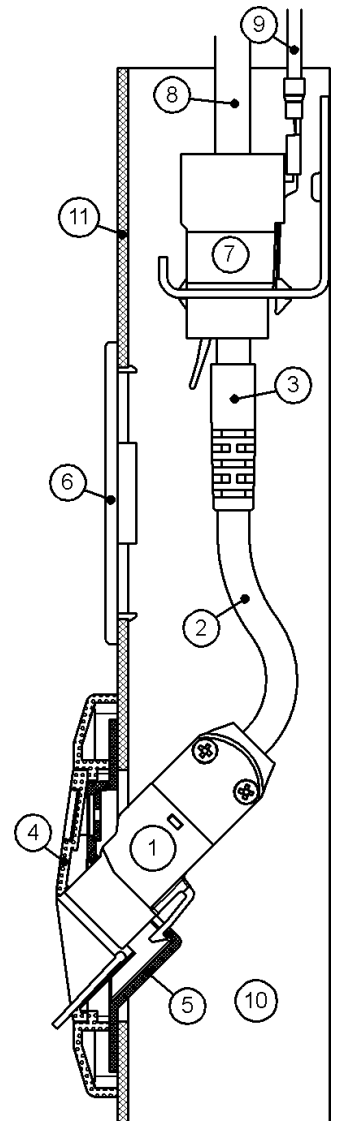
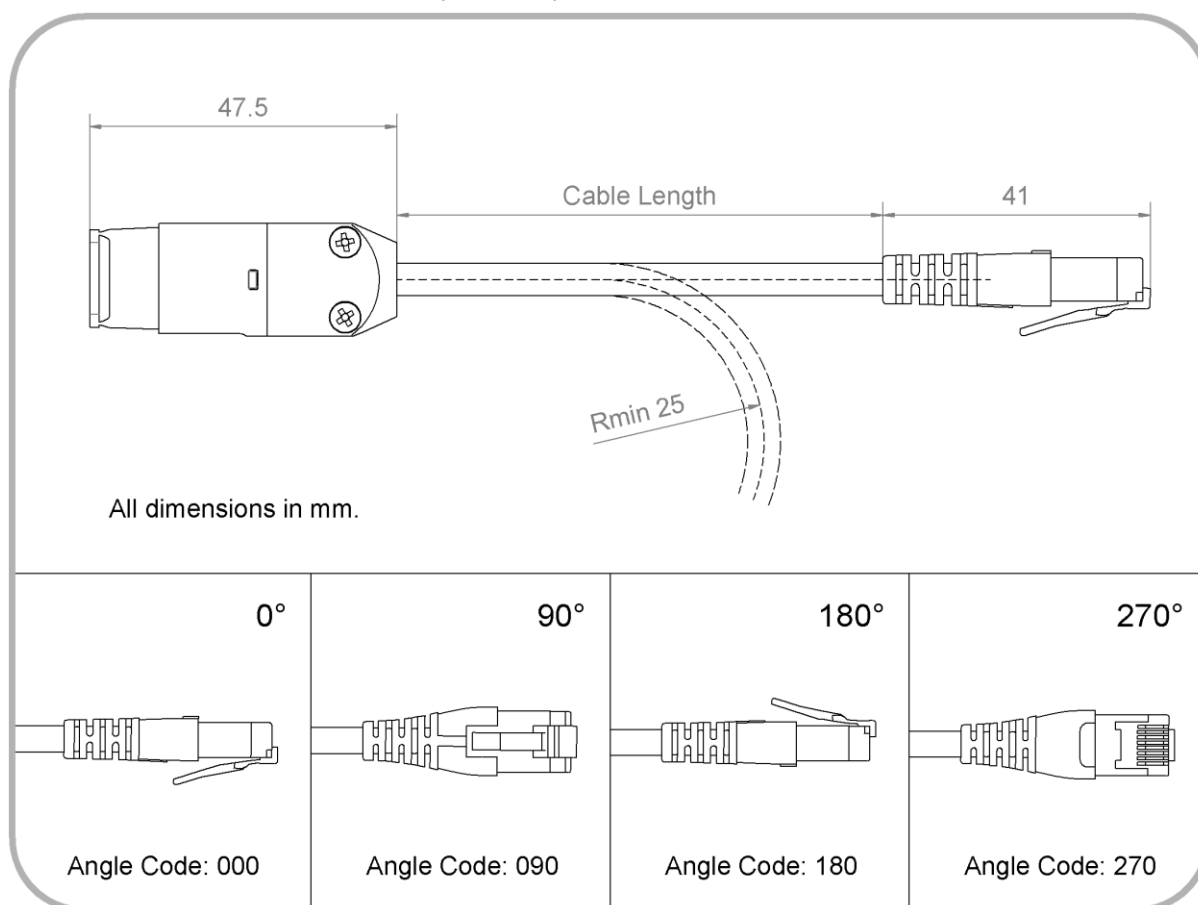
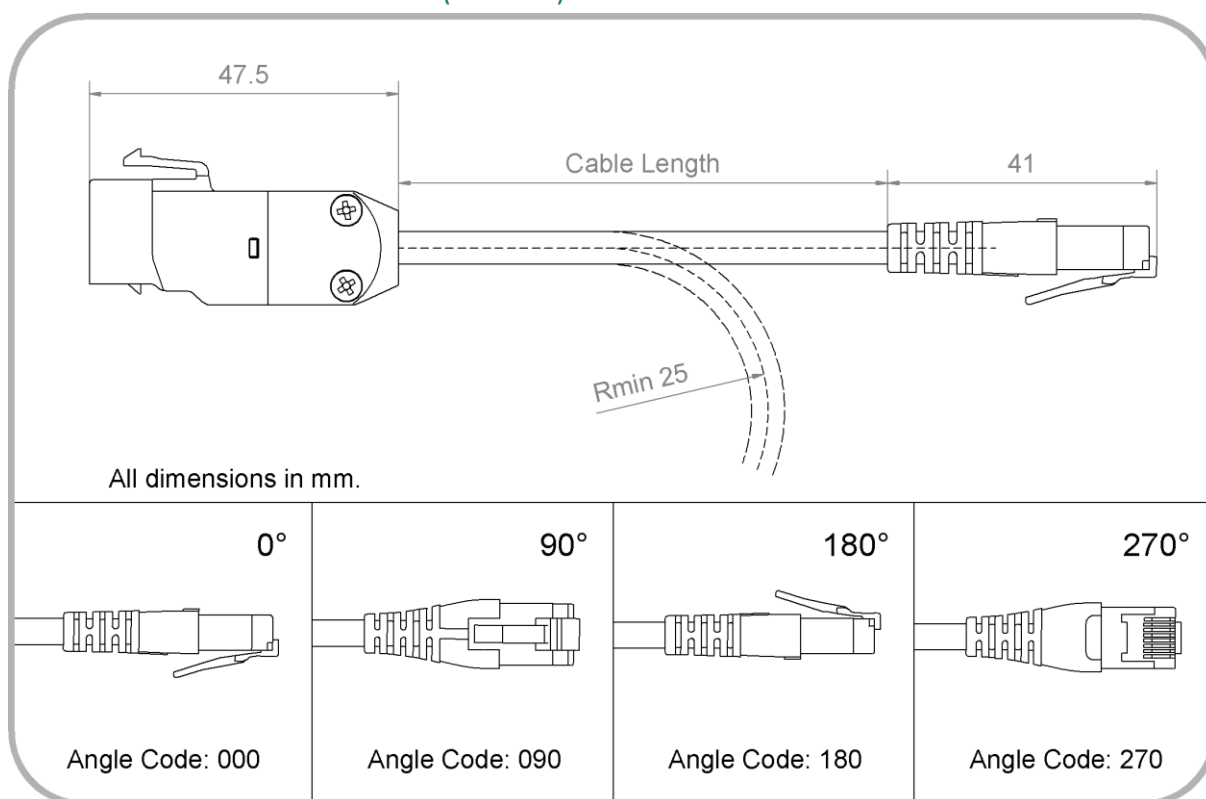

Figure 6
Figure 8. Technical drawing for EN-65S, showing definition of cable length, as well as angle codes.
Figure 9. Technical drawing for EN-65K, showing definition of cable length, as well as angle codes.
Figure 6 shows a typical assembly within a cable duct ⑩, with cover ⑪. The Network Isolator EN-65K ① is shown installed in a Keystone-compatible wall outlet, which usually consists of a support frame ⑤ and a plastic front panel ④. The RJ45 plug ③ of the Network Isolator is to be inserted into a RJ45 jack module termination ⑦ at the end of the permanently installed data cable ⑧. When retrofitting the Network Isolator EN-65K ① into network channels, the existing RJ45 jack module from the wall outlet can be shifted back within the cable duct ⑩, and used as the connection to the Network Isolator.
The transmission properties of permanent network installations fitted with EN-65 Network Isolators can be checked with cable certification devices which are suitable for testing electrically isolated cable sections. To be able to conduct such an inspection, the test equipment must be configured in an AC wire-map mode. The entire cable route, including the Network Isolator, can be tested to EIA/TIA-568 Cat.5e or ISO 11801 Class D. Testing of the cable shielding and the conductor resistance is not possible in this mode. If however, these tests are required, or if the quality of the cable route itself needs to be tested (without the Network Isolator), then testing can be performed by bypassing the Network Isolator, and connecting directly to the RJ45 socket ⑦, set back within the cable duct, as indicated in Figure 6.
The length of the flexible cable stub ② (see Figure 6 in section 7.1) of the EN-65 Network Isolator is available in selected lengths from 30 mm to 10 m (inclusive). Refer to Figure 8 and Figure 9, as well as the table in section 10.4. It is recommended that this length be kept to a minimum. When compared to a fixed installed cable, this flexible cable stub may be more susceptible to near end crosstalk (NEXT) and alien crosstalk (AXT). The flexible cable stub itself generates a small, but length-dependent amount of insertion loss (IL).
For flexible cable stub lengths between 30 mm and 500 mm (inclusive), the plug angle can be chosen, easing mechanical constraints in certain assembly configurations, and removing impermissible torsion strains from the cable assembly. Refer to Figure 8 and Figure 9. The manufacturing tolerance for the plug angle is $\pm 20^\circ$.
When placing orders for EN-65, please specify the exact Order Code (OC). The order number is a hyphenated concatenation of the Article Number (A10068 for EN-65K, or A10069 for EN-65S), the Length Code for the desired cable length (see section 10.4 above), and the Angle Code for the desired plug angle (see Figure 8 and Figure 9). For flexible cable stub lengths greater than 500 mm, the EN-65 will always be manufactured with a plug angle of 0°, and the Angle Code can be omitted for such orders.